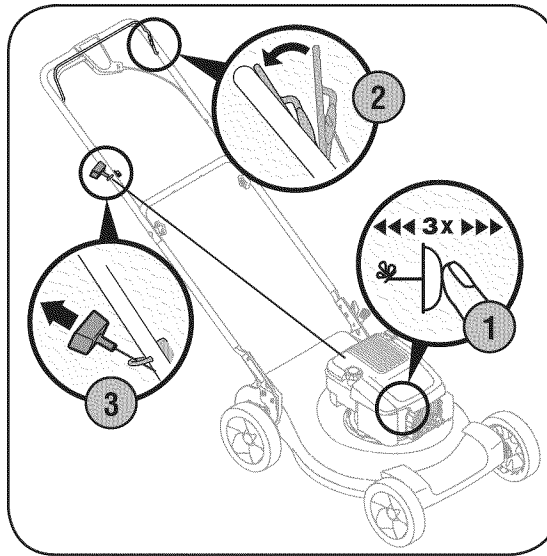

Figure 4-2: Starting the mower.
1. Push primer three times. Wait about two seconds between each push, Figure 4-2. In temperatures around 55°F or below, prime five times. Do not prime to restart a warm engine.
2. Standing behind the mower, squeeze the blade control against upper handle, Figure 4-2.
3. Grasp recoil starter handle and pull rope out with a rapid, continuous, full arm stroke, Figure 4-2. Keeping a firm grip on the starter handle, let the rope rewind slowly. Repeat until engine cranks. Let the rope rewind each time slowly.